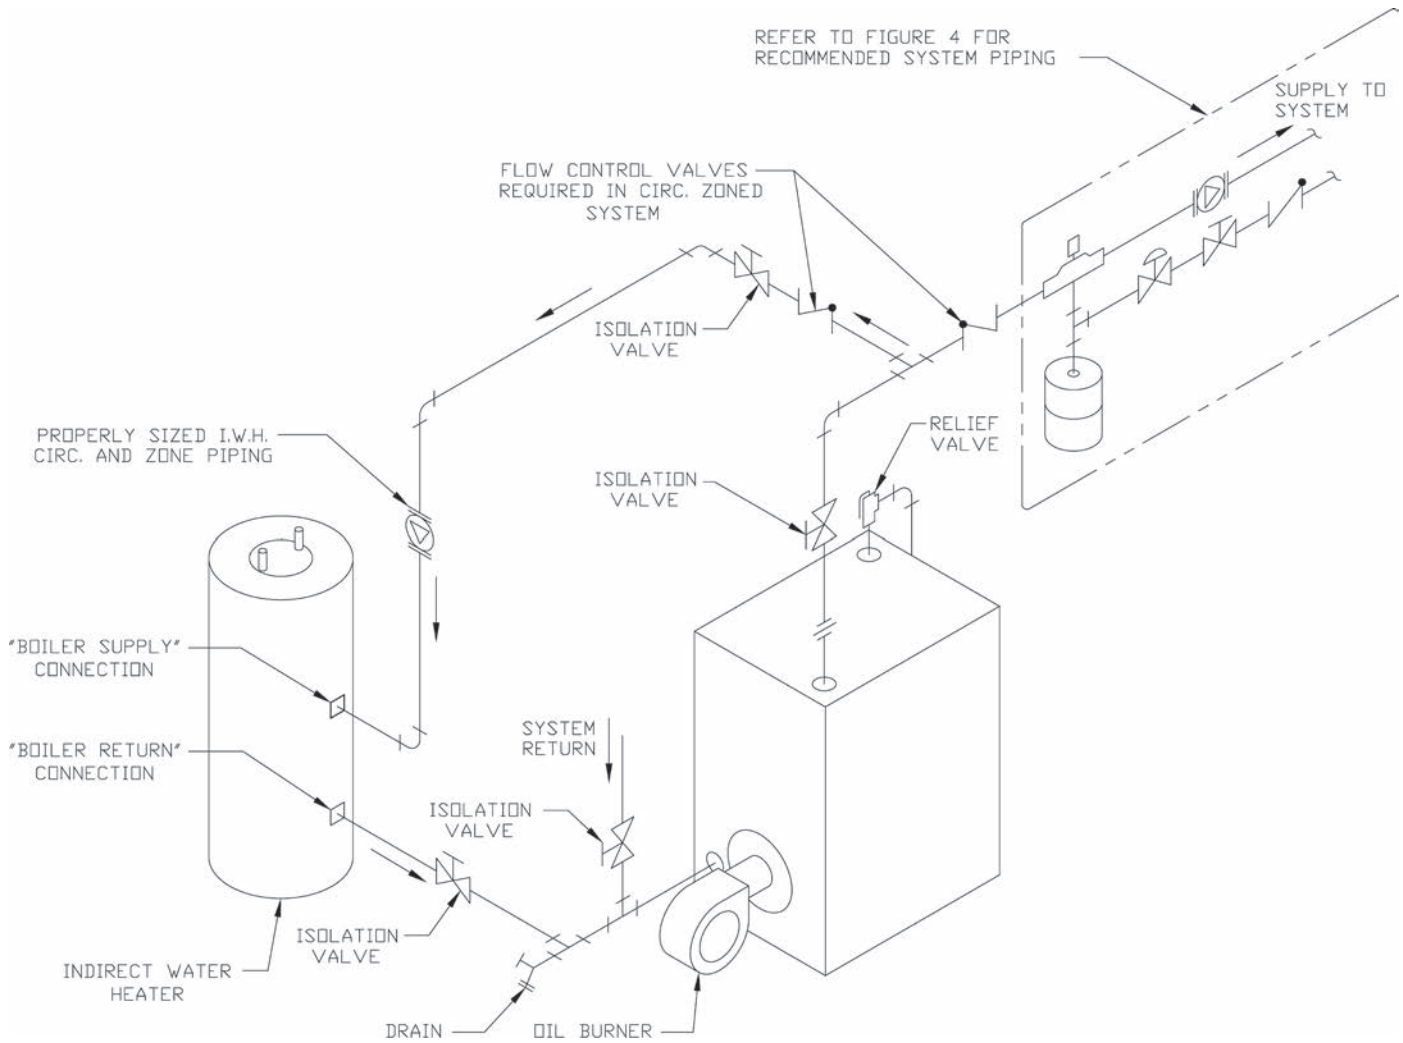

Figure 12: Indirect Water Heater Piping on Advantage Series Water Boiler
- A. CONNECT Indirect Water Heater Piping as shown in Figure 12. Refer to Indirect Water Heater Instruction Manual for additional installation information.
Advantage SERIES WATER BOILER - Figure 12 shows indirect water heater piping on typical hot water heating system. Boiler piping is the same as for any two-zone system. Figure 12 shows circulator zoning, which is usually preferred for indirect water heaters. Size the circulator and indirect water heater piping to obtain the boiler water flow through the indirect water heater called for by the indirect water heater manufacturer. Refer to the indirect water heater instruction manual for additional details.